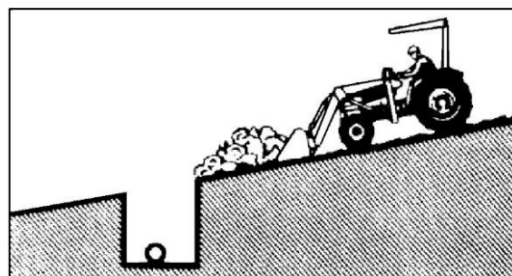

Fig 4.24.Pile dirt on the high side
- Pile dirt on the high side for easier back filling on a slope shown in figure 4.24.